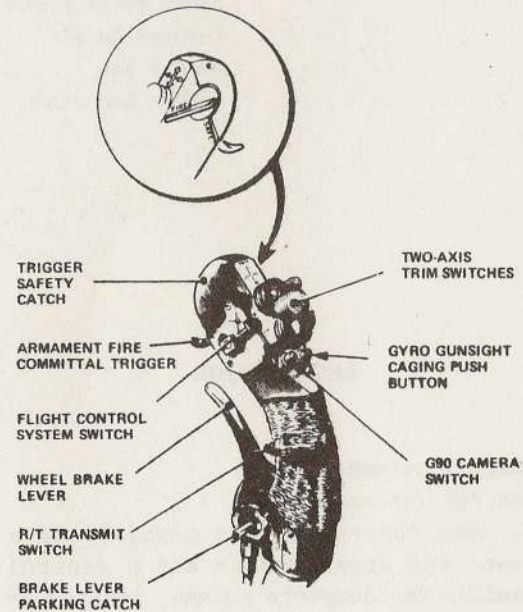

Fig. 2. Control handle
Control handle (fig.2)
10. Rudder trim is controlled by two 2-way switches, on the port console, which are normally operated together. Aileron and tail-plane trim are effected by dual 4-way switches on the control column handle (fig.2). The switches are moved fore-and-aft for tail-plane trim and laterally for aileron trim (Sect.6, Chap.3).